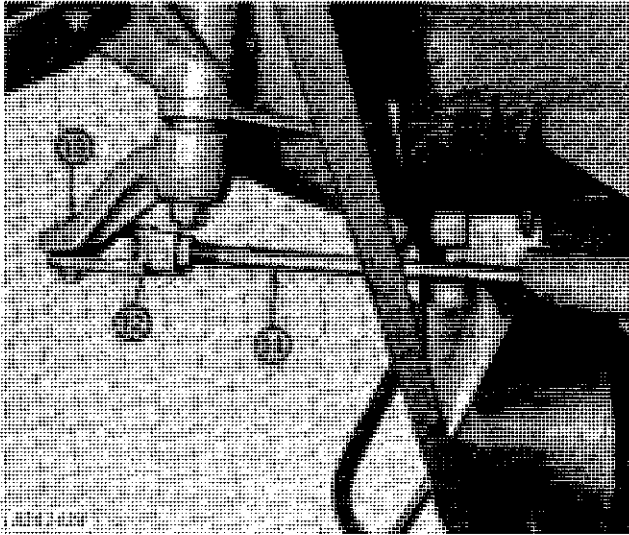

Fig. 19-Connecting Piston Rod Yoke to Hinge Pin Arm
11. Start combine engine and activate hydraulic swing control until piston rod is completely extended. Shut off engine (Fig. 19).
12. With auger locked against separator, thread lock nut on piston rod, then thread yoke on piston rod until holes in yoke and hinge pin arm align (Fig. 19).
13. Insert drilled pin in hinge pin arm. Insert cotter pin and tighten lock nut on piston rod (Fig. 19).